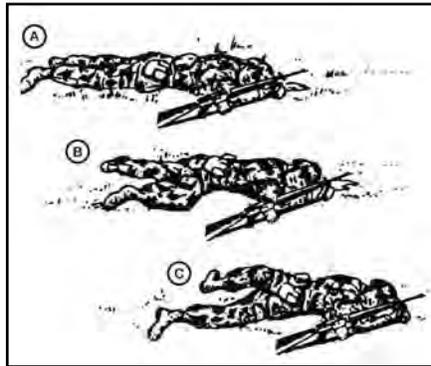

Figure 071-326-0502-3. Low crawl
- 6.** Use the rush to move from one covered position to another when enemy fire allows brief exposure (figure 071-326-0502-4).